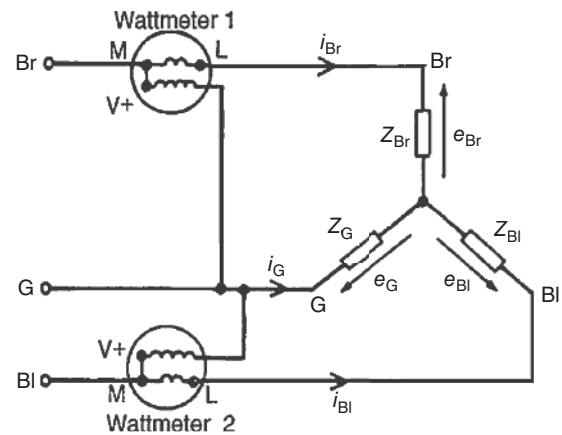

Figure 23.15
- (a) A connection diagram for the two-wattmeter method of a power measurement is shown in Fig. 23.15 for a star-connected load.
However, $(e_{Br} - e_G)$ is the p.d. across wattmeter 1 in Fig. 23.15 and $(e_{BI} - e_G)$ is the p.d. across wattmeter 2. Hence total instantaneous power,